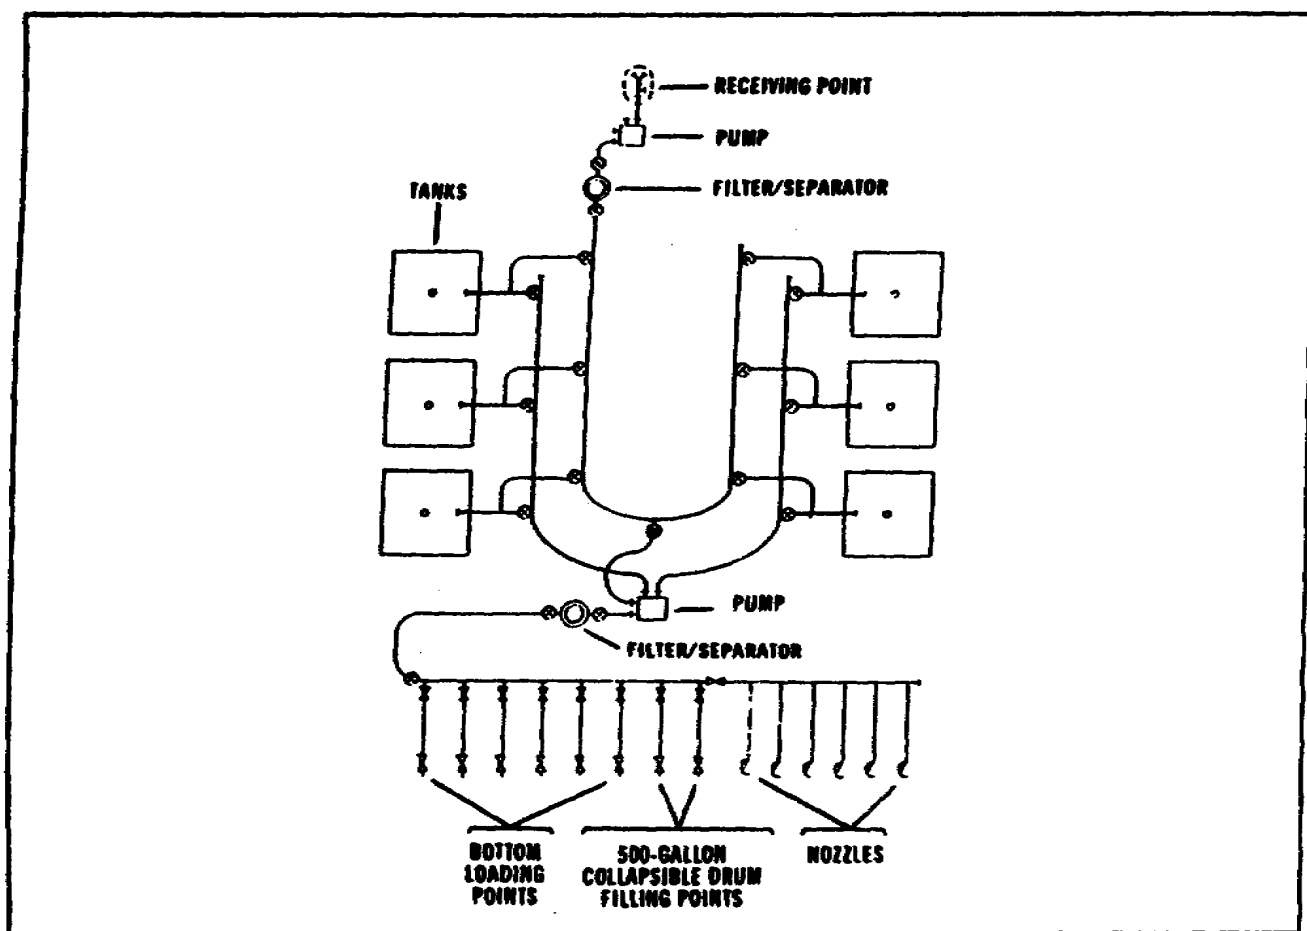

Figure 1-13. Consolidating or circulating product in the fuel system supply point
- o Open the discharge valve on the pump, and increase the pump speed to the operating level. Continue pumping this way until you have finished the transfer. Figure 1-13 shows the product moving through the FSSP.